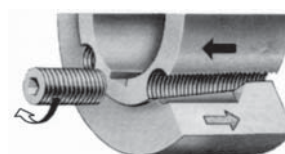

Fig. 4
1. Loosen and remove all screws. Depending on the taper bush size, screw either 1 or 2 greased screws into the half pulling-off thread(s) of the taper bush (Fig. 4).